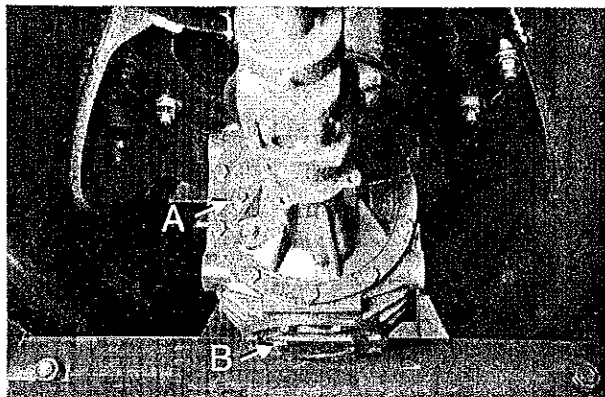

Figure 31. Right-angle Gearbox.
**Right-Angle Gearbox** - Remove the fill plug (Figure 31-A). Remove the drain plug (Figure 31-B) and drain the right-angle gearbox. Replace the drain plug, and fill the gearbox to the fill plug with SAE 90 weight gear oil.